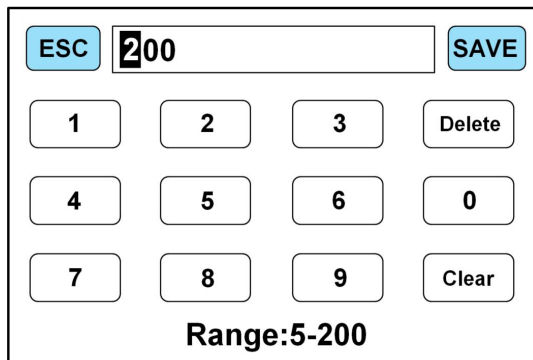

Figure 32
1) Hold down the “” key under the main interface for 3 seconds until the preset interface pops out, as shown in Figure 32 below: